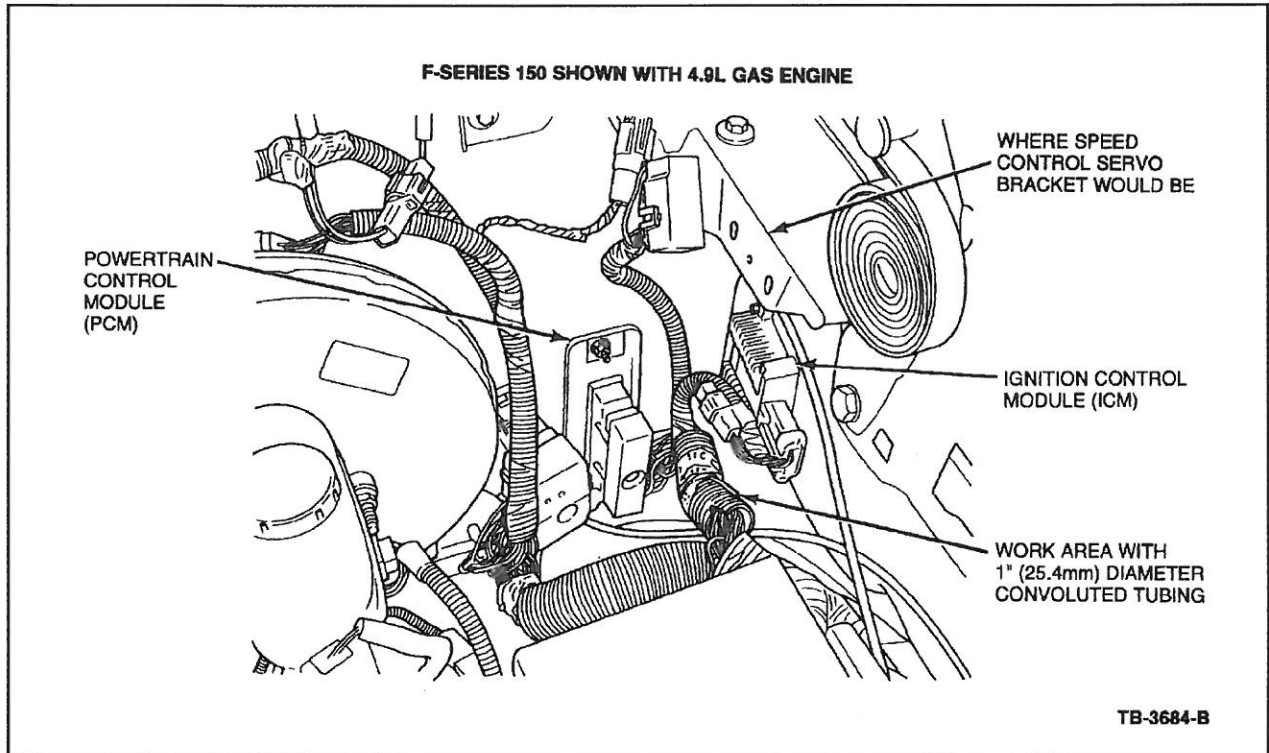

Figure 1 - Article 95-15-11
2. If vehicle has the speed control option, remove the speed control servo bracket and position it out of the way for improved access. Refer to Figure 1.